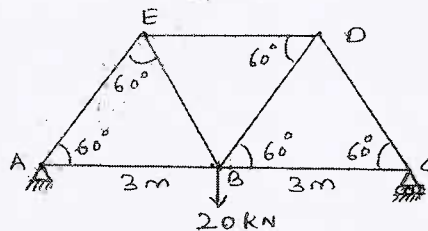

Fig.Q4(b)
- b. For the pin-jointed frame shown in Fig.Q4(b), determine vertical deflection under the load, using unit-load method. Cross-sectional area of each member is $500 \times 10^{-6} \text{ m}^2$ and Young's modulus is $2 \times 10^8 \text{ kN/m}^2$. (14 Marks)